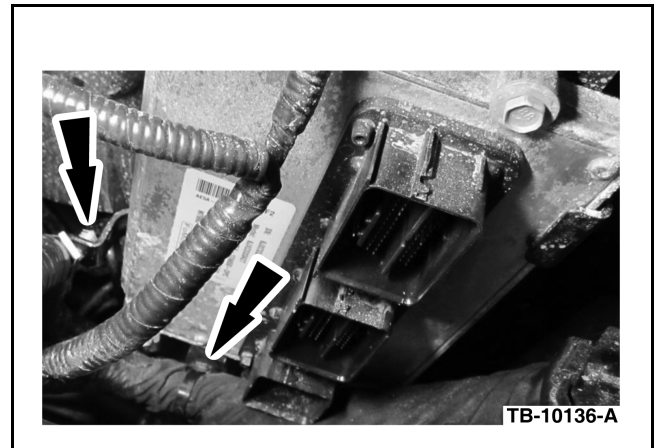

Figure 3 - Article 11-4-23
5. Remove the two (2) harness bundle retainers. (Figure 3)